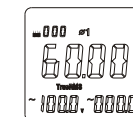

Figure 12-1
4) As shown in Figure 12-1, please press SELECT key to select the 1st phase location of ϕ 1 for three-phase four-wire system of load. It also can display apparent power, voltage and current of phase location of ϕ 1.